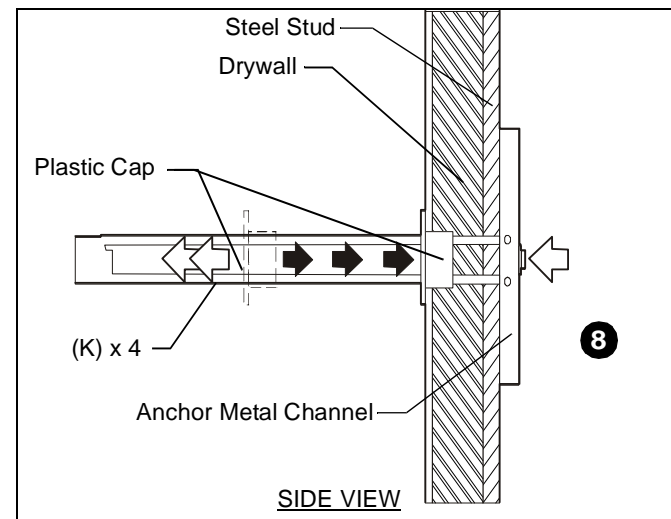

Figure 31
7. Holding plastic straps on anchor (K), pull anchor away from wall until channel rests flush behind wall making sure anchor channel is positioned vertically on stud. (See Figure 31)
8. Slide plastic cap on anchor (K) towards wall until flange of cap is flush with wall. (See Figure 31)